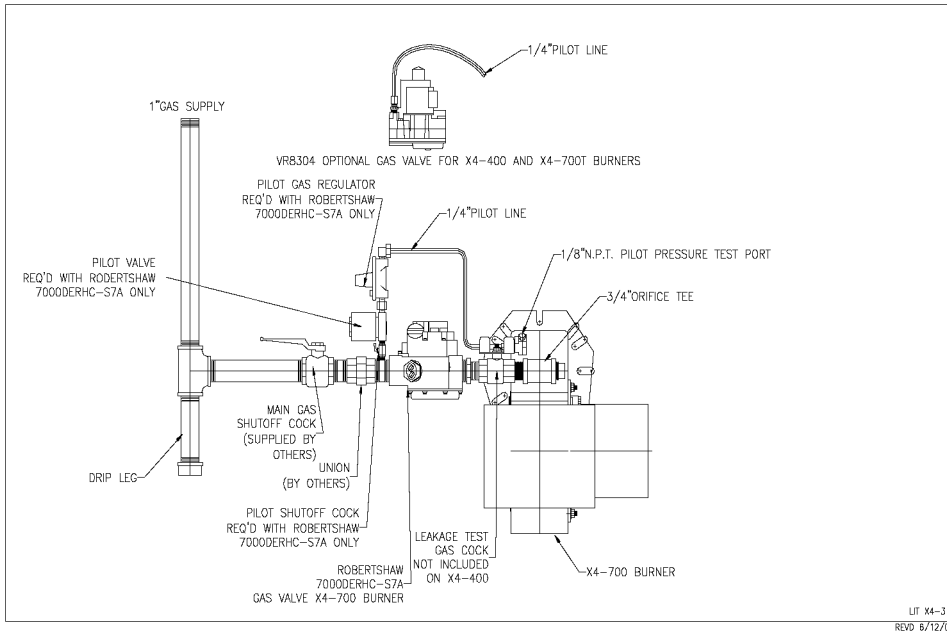

Figure 3: UL Gas Piping Train (X4)
- 5.3 **Refer to Figure 3** for details of gas piping. (Also refer to any additional piping diagrams supplied for this specific unit.)
- 5.4 Mount leakage test and main gas cocks, main automatic gas valve or combination gas valve/pressure regulator, and auxiliary valves (if required and not factory mounted) per piping diagram or **Figure 3**.
- 5.6 The pilot line should be piped into the upstream tapped nipple to minimize pilot line piping length. An optional location is in a tapping located on the main shut-off cock. **Refer to Figure 3**. For ease of servicing we recommend the use of a union immediately upstream of the main gas pressure regulator or combination gas valve/pressure regulator.